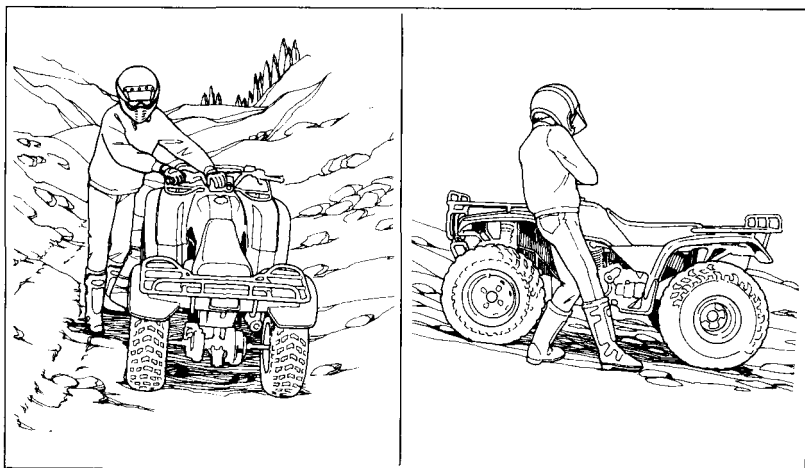

Fig. 3-11 Be sure your legs are clear of the wheels.
1. Stand with your body facing downhill, beside the vehicle so you can reach the rear brake lever with your right hand (See Figure 3-11).